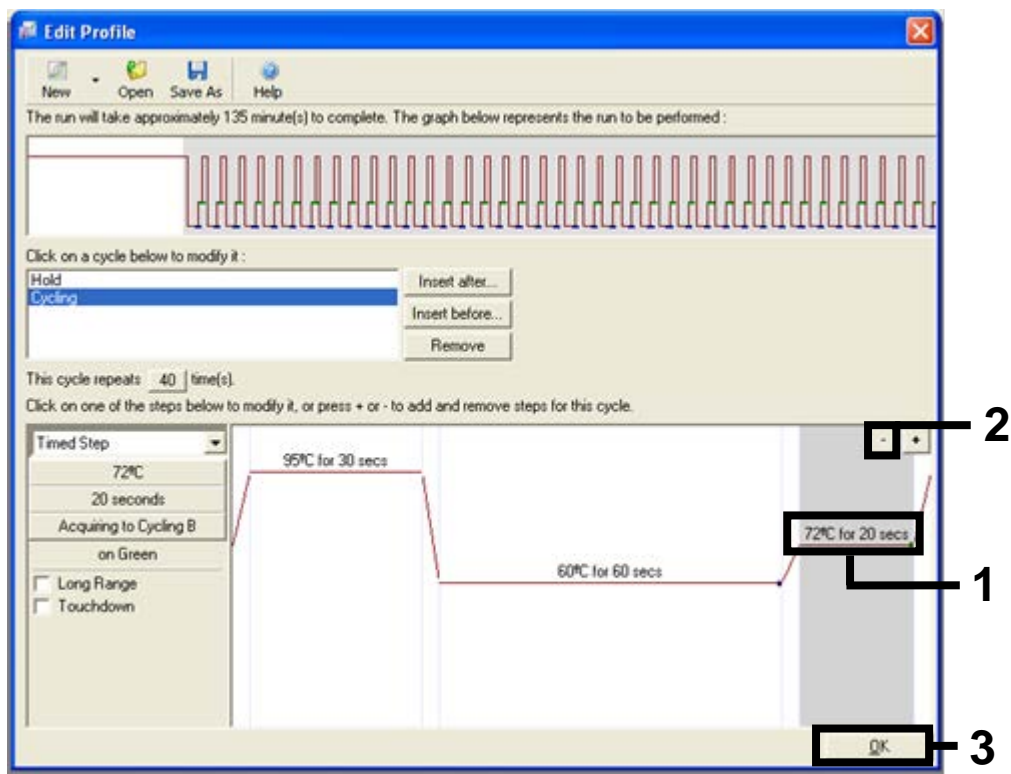

Figure 29. Removal of the extension step. (1 = Third step, 2 = Delete button, 3 = “OK” button).
11. Highlight the third step and delete by clicking the “-” button. Click “OK” (Figure 29).